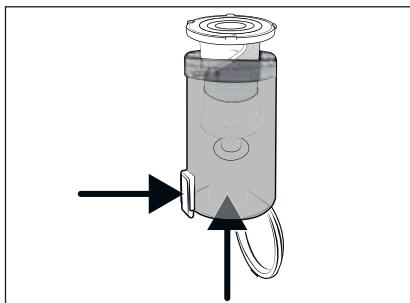

Fig. 20
- 3) Remove the stainless steel filter 6 from the dust container 7 by pressing the dirt container lid release button 8. Then slide the stainless steel filter 6 out of the dust container 7 from below (see Fig. 20).